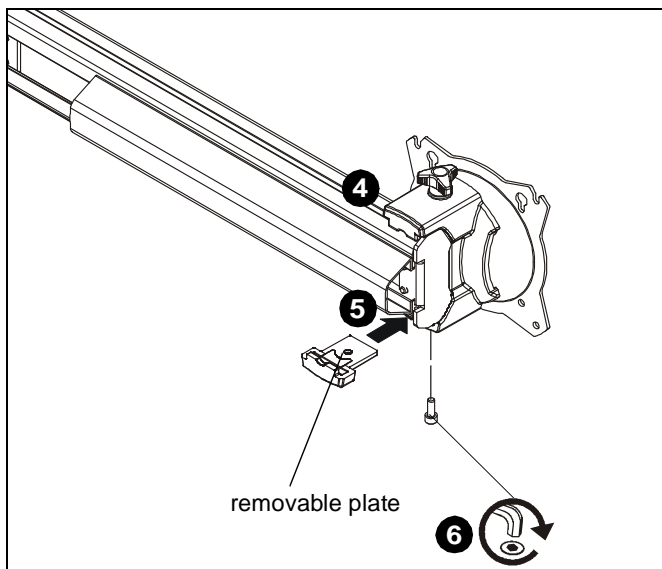

**Figure 20**
1. Remove hex head bolt from bottom of faceplate assembly. (See Figure 20)
2. Slide out removable plate from bottom of faceplate assembly. (See Figure 20)
3. Remove faceplate assembly from array arm. (See Figure 20)